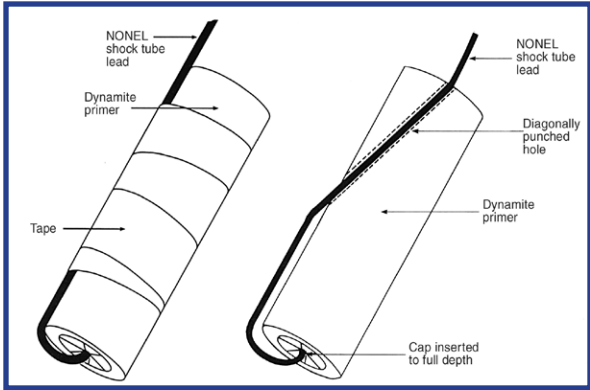

Figure 58- NONEL / dynamite primer assembly.
**For dynamite (and other paper cartridge primers)**, either tape the shock tube lead to the primer or punch a hole, using a non-sparking tool, diagonally starting at the top and exiting the side. Thread the detonator through this hole and insert fully into the cartridge (Figure 58).